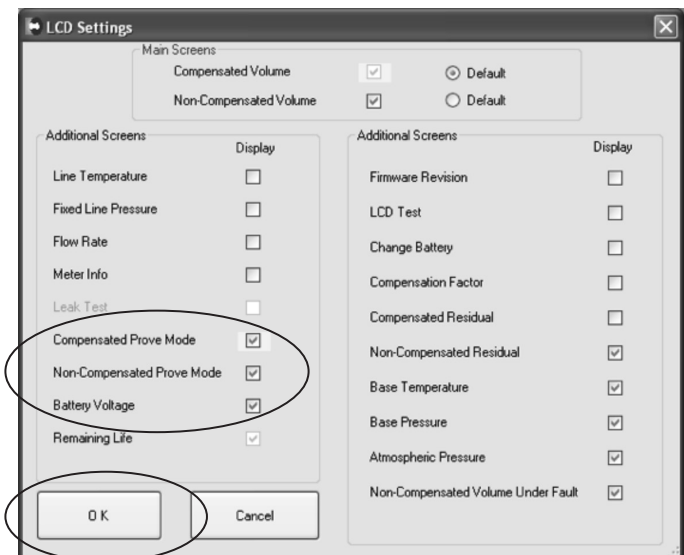

Figure 2 - LCD Settings screen in Dresser MeterWare
2. From the **LCD Settings** screen (Figure 2), choose either **Compensated Prove Mode** or **Non Compensated Prove Mode**, or both, and then select **OK** to return to the **Configuration** screen.